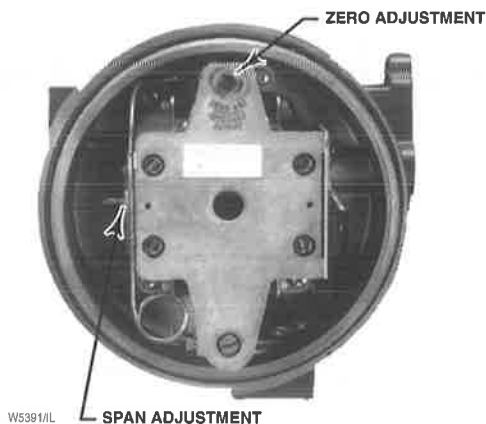

Figure 5. Zero and Span Adjustments (Cover Removed)
**Zero and Span Adjustments:** Screwdriver adjustments located inside case (see figure 5)
Adjust the filter regulator to provide the proper supply pressure to the transducer, then adjust the transducer span and zero (see figures 5 and 6) to match the application requirements and be within specifications.